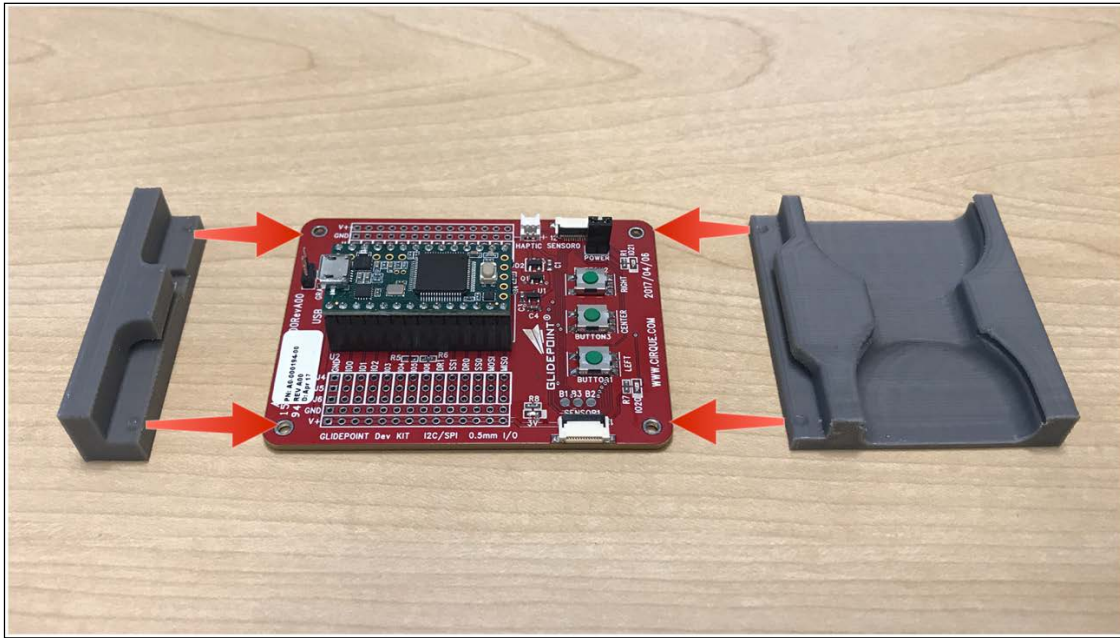

Figure 1: Slide the holder so that it clips into the corner mounting holes as shown above.
- Cirque GlidePoint Dev Board (p/n: 02-000620-00). This board should have the Teensy 3.2 Arduino compatible module pre-mounted. If this Teensy 3.2 is not pre-mounted it will need to be attached to the board using pluggable header pins (see Figure 1).